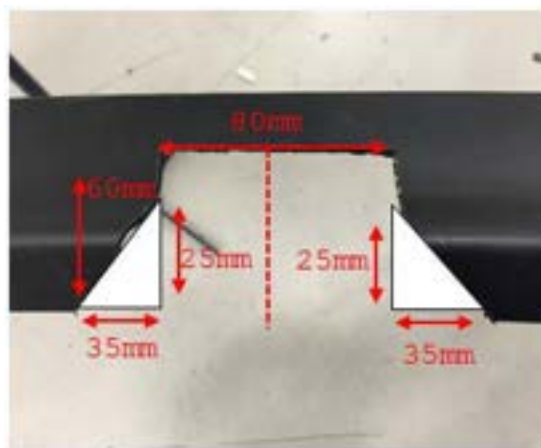

figure 2.
20. On the lower garnish where the bottom edge is, locate the centre vertical. Cut 80mm across (40mm either side of the centre) and up 60mm from bottom edge as measured outside of bumper. As show on figure 2.